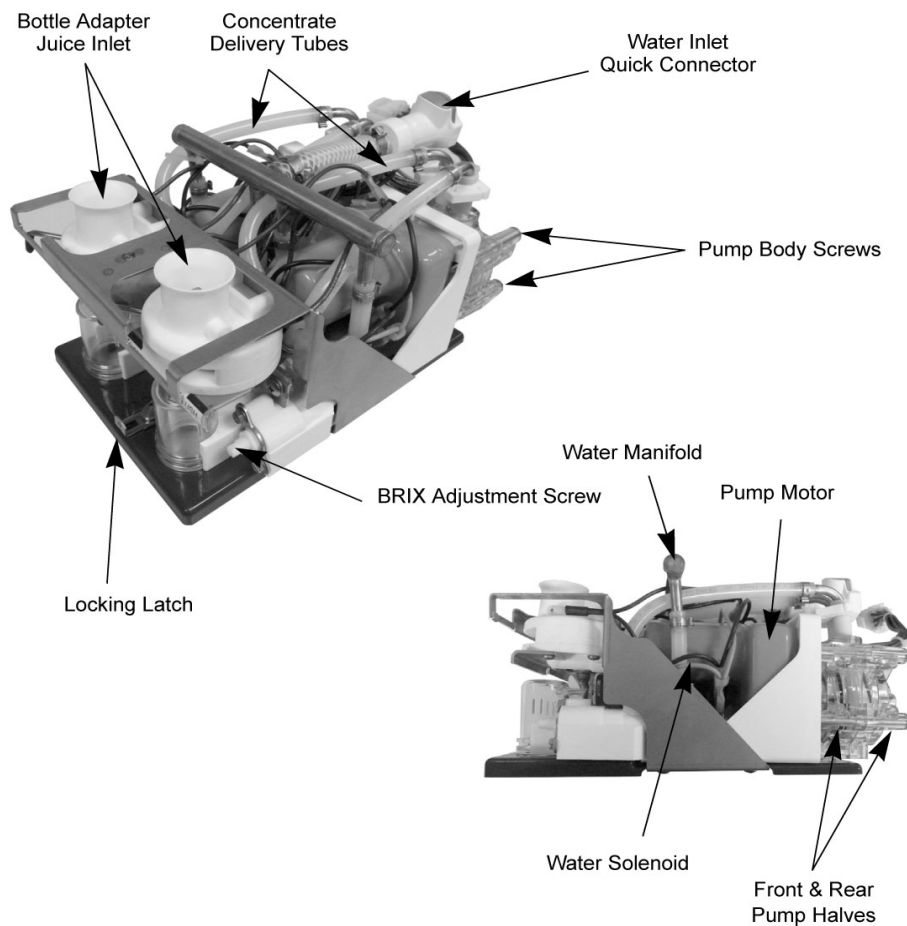

Figure 13. Interior Details
4. Unplug the water line quick disconnect by pressing the gray button (See Figure 13).
5. Slide the locking latch forward. Lift the platform slightly and pull forward to gain access to the electrical connector (see Figure 13).
6. Unplug the electrical connector by squeezing the locking tabs on either side and pulling out the connector. Lift and remove the pump platform (see Figure 13).
1. Remove the two white plastic hose clamps from the pump tube connections (See Figure 13) and remove the concentrate delivery tubes from the hose ends.